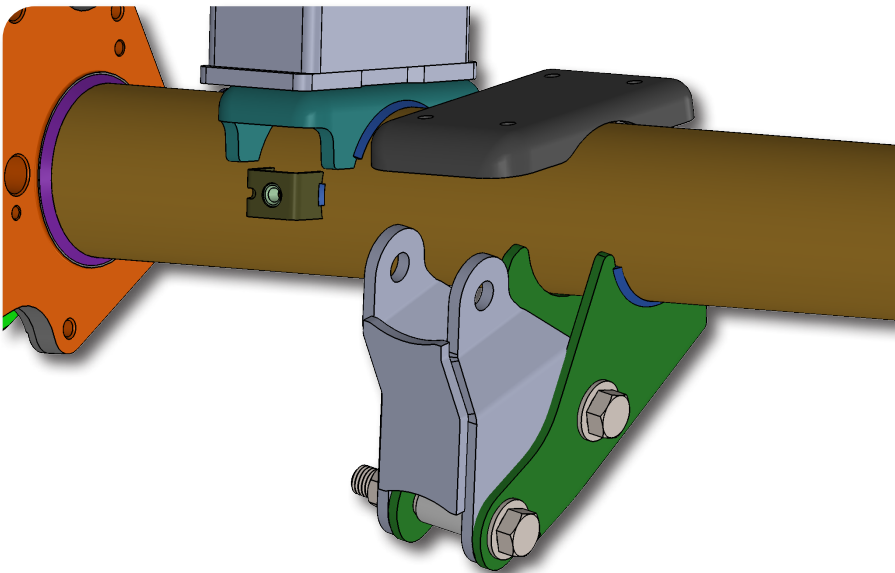

Figure 7
13. **Denali (ARC) & ZR2 / AT4X Models Only:** Install the provided rear shock relocation bracket with the provided sleeves and 9/16" hardware in the factory shock location and the new hole drilled in the previous step. The bracket should offset the factory bracket to the outside of the vehicle (Fig. 7).